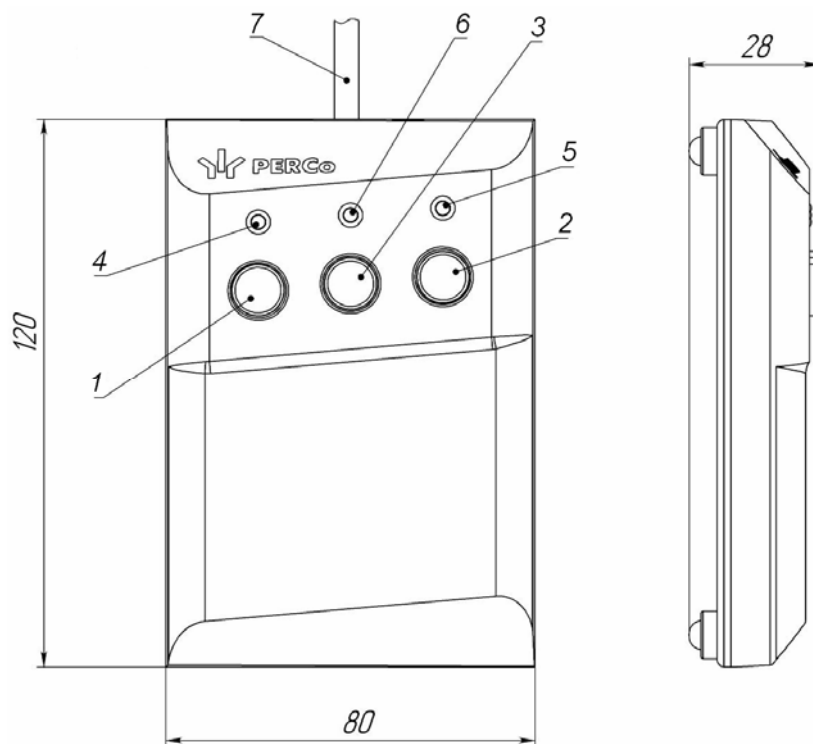

Figure 4. RC panel overall view
5.2.4 The RC panel is designed as a small desktop device with a shockproof ABS plastic case and is intended for setting and indicating operating modes when the turnstile is operated manually. The RC panel is connected to the CLB with a multicore cable (11) via the XT1.L connector block (See Fig. 4).